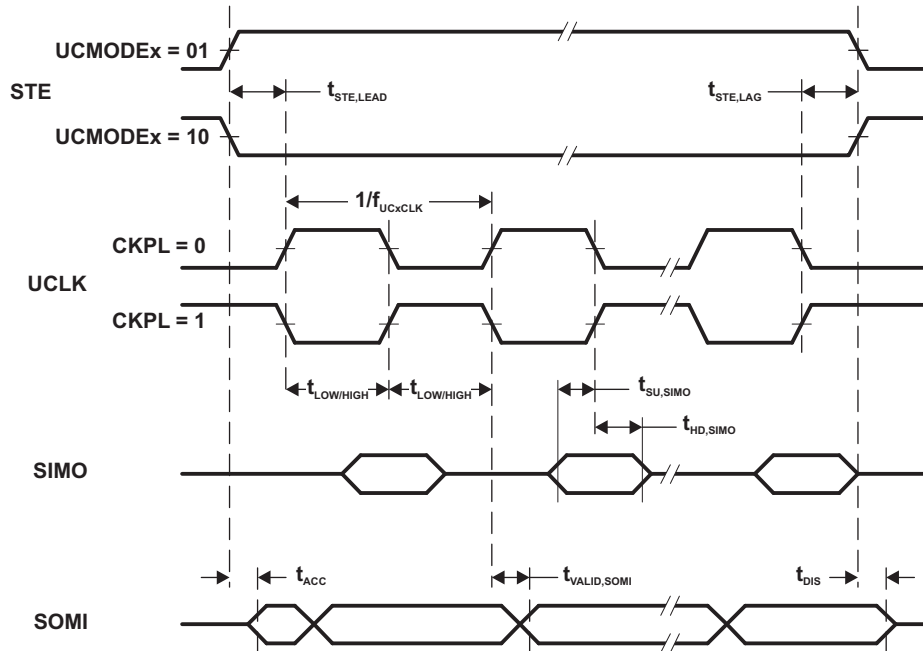
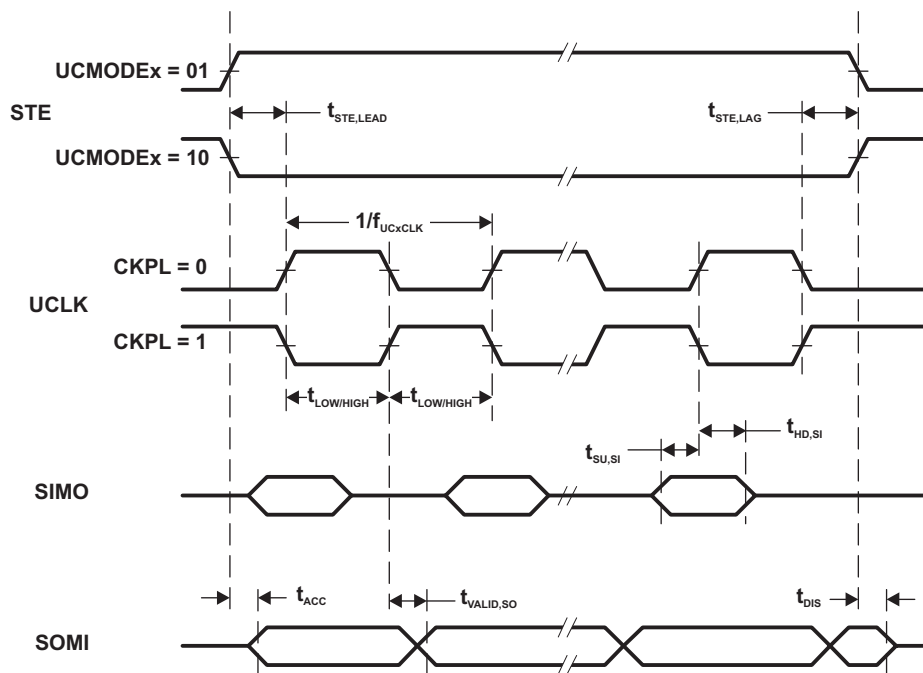

Figure 9. SPI Slave Mode, CKPH = 0
Figure 10. SPI Slave Mode, CKPH = 1
- (2) Specifies the time to drive the next valid data to the SOMI output after the output changing UCLK clock edge. See the timing diagrams in Figure 9 and Figure 10.
- (3) Specifies how long data on the SOMI output is valid after the output changing UCLK clock edge. See the timing diagrams in Figure 9 and Figure 10.